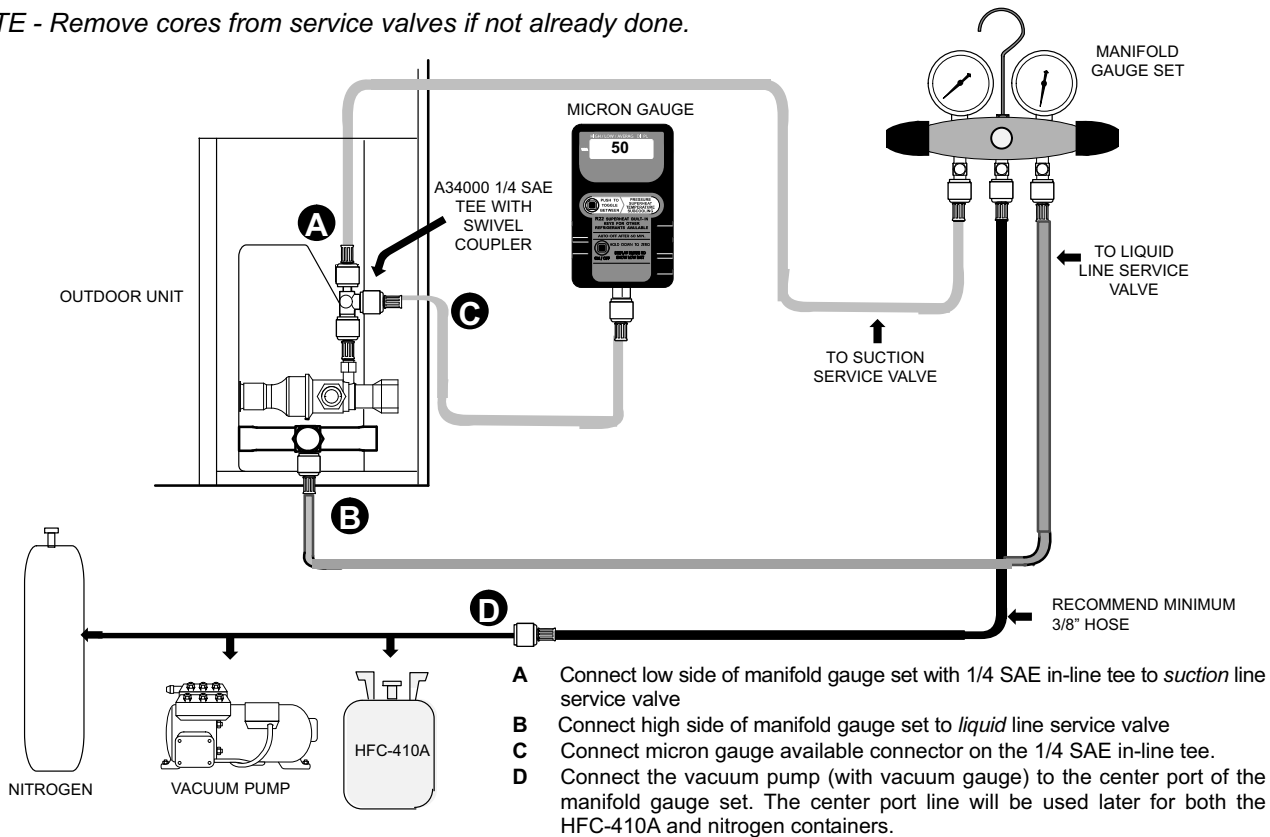

FIGURE 17
- 1.. Connect an HFC-410A manifold gauge set as illustrated in figure 17.